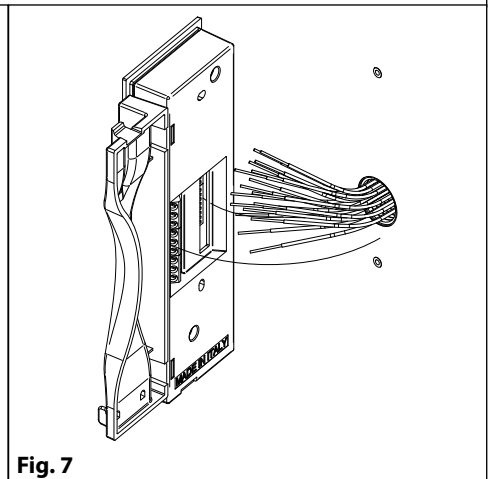

Fig. 7
2. As shown in **Fig. 7**, connect the wires using a flat screw driver then setup the dip-switches as per provided connection diagram or instruction sheet.